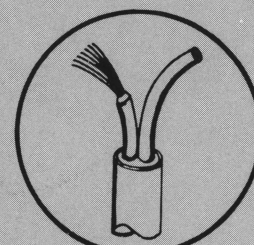

Fig. 5
5. Remove a half-inch of the insulation from the end of the wires. *Do not cut any of the small wires.* (Fig. 5).